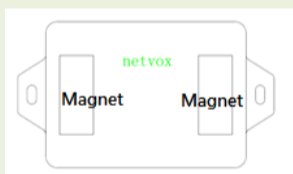

Figure 1
1. The Wireless 2-gang Hall Type Open/Close Detection Sensor (R718LB2) has a built-in magnet (see Figure 1 below).